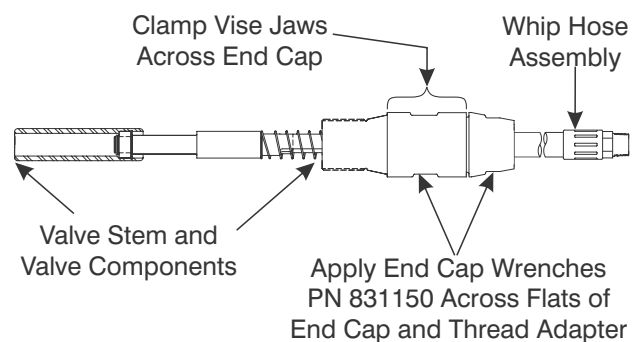

Figure 9-43. Secure End Cap for Assembly.
DO NOT grip the End Cap (8) by its threads. Refer to Figure 9-43.
- a. When using the End Cap Wrench, grip the End Cap (8) across the flats as shown in Figure 9-43.
- b. When using a vise or saddle clamp, grip the End Cap (8) across the raised area on both sides of the wrench flats as shown in Figure 9-43.